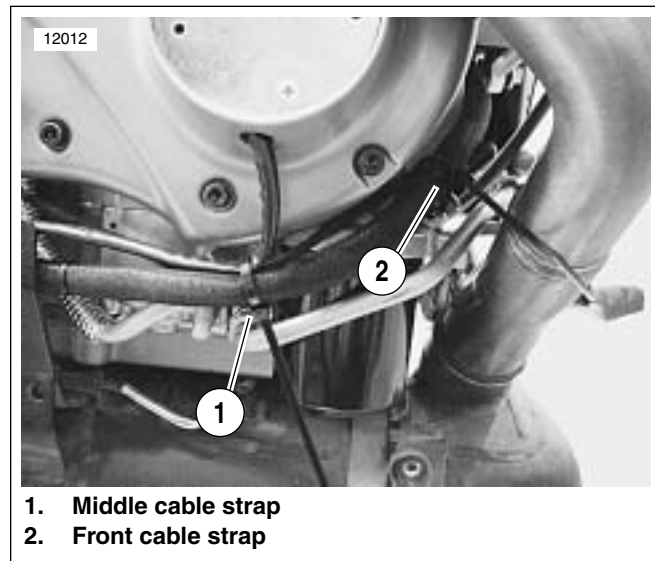

Figure 7-80. Cable Straps (Typical)
11. See Figure 7-80. Install cable straps: